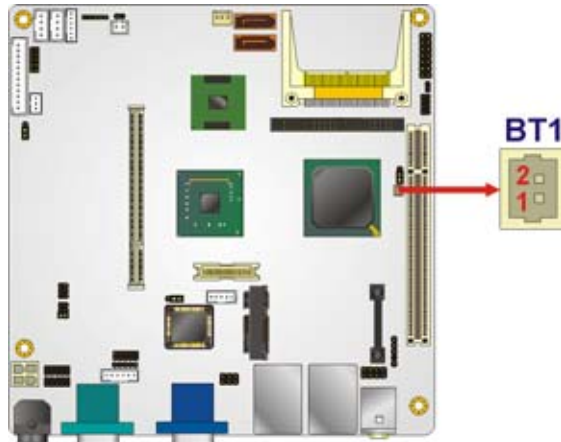

Figure 4-2: Battery Connector Location
- CN Location:** See **Figure 4-2**